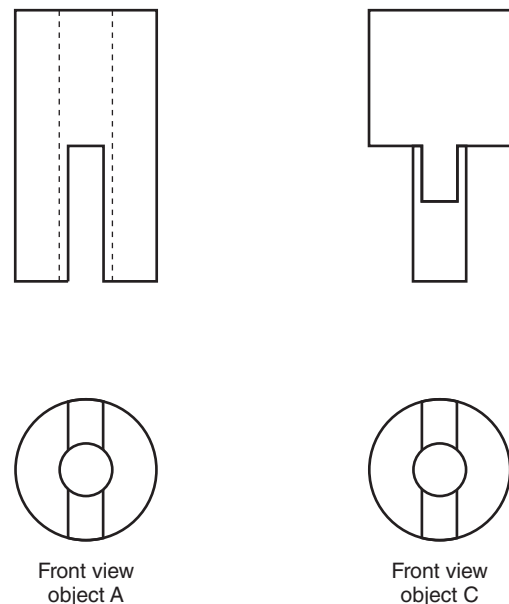

Figure 3-26 As the top views appear. Note that the views must lie in this orientation to be correct.
13. The two top views for objects A and C (Fig. 3-26)
better initial impression of the overall shape of the object. (The right-side view is shown in the answer; see Fig. 3-26 for front perspective.)